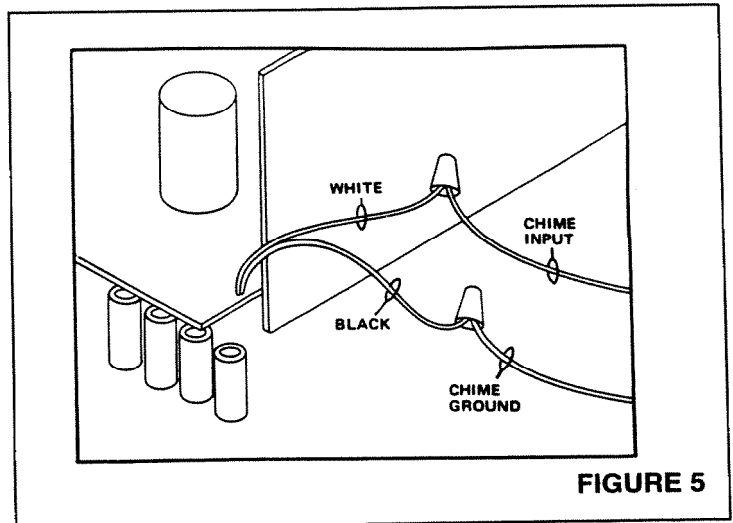

FIGURE 5
1. Connect two-conductor wires (IW-2) from the chime to the black and white wires as illustrated in Figure 5.